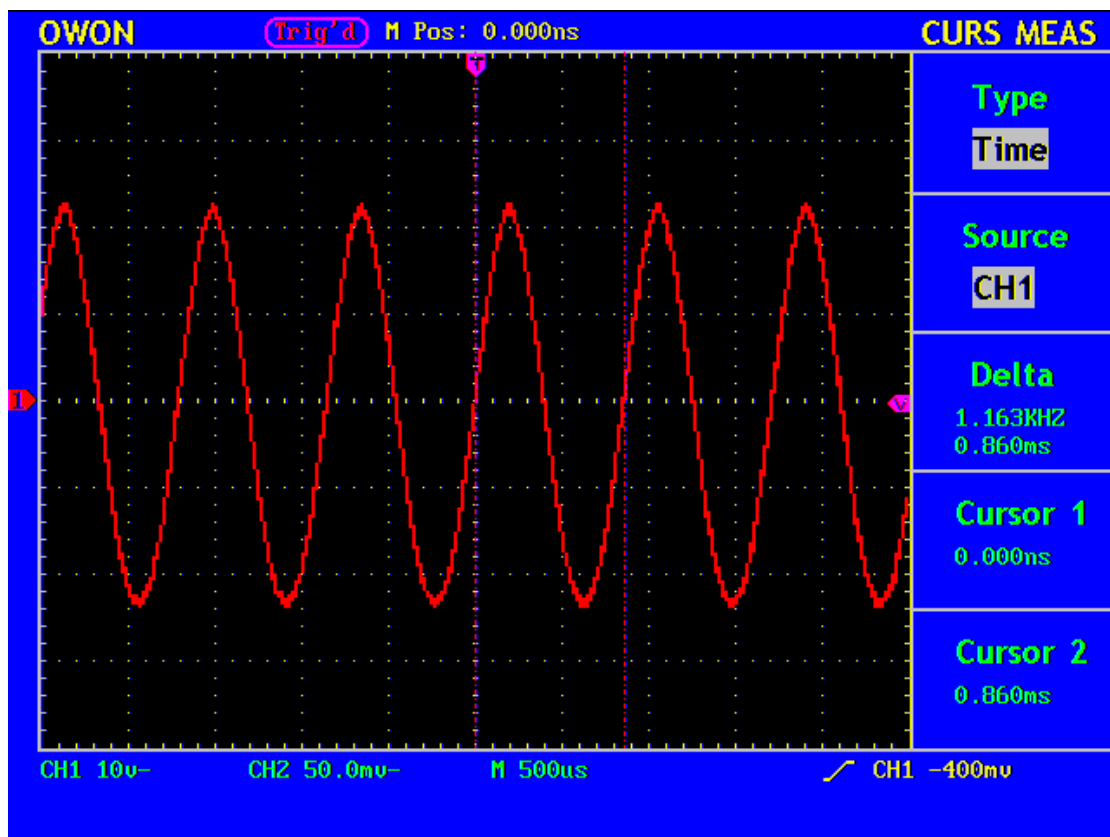

Fig. 52 Wave Form of Cursor Measurement
4. Adjust the positions of **CURSOR1** and **CURSOR2** according to the measured wave form, with the cycle and frequency of Cursor1 and Cursor 2 displayed in the increment window. The current position of Cursor1 is displayed in the Cursor1 window and that of Cursor2 is displayed in the Cursor2 window (see Fig. 52).